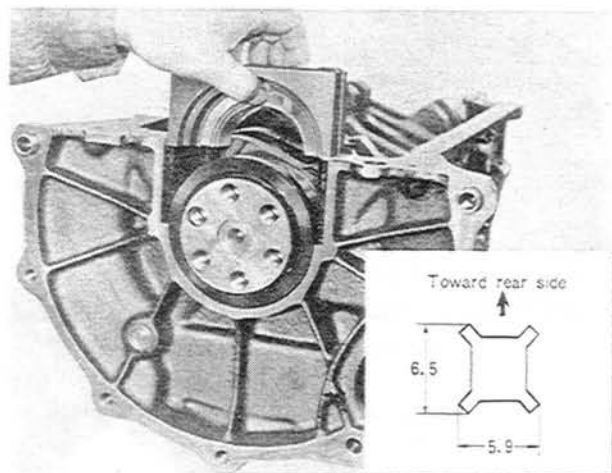

Fig. 1-50 Installing of main bearing cap
**Note:** The side seals should be placed as shown in Fig. 1-50.